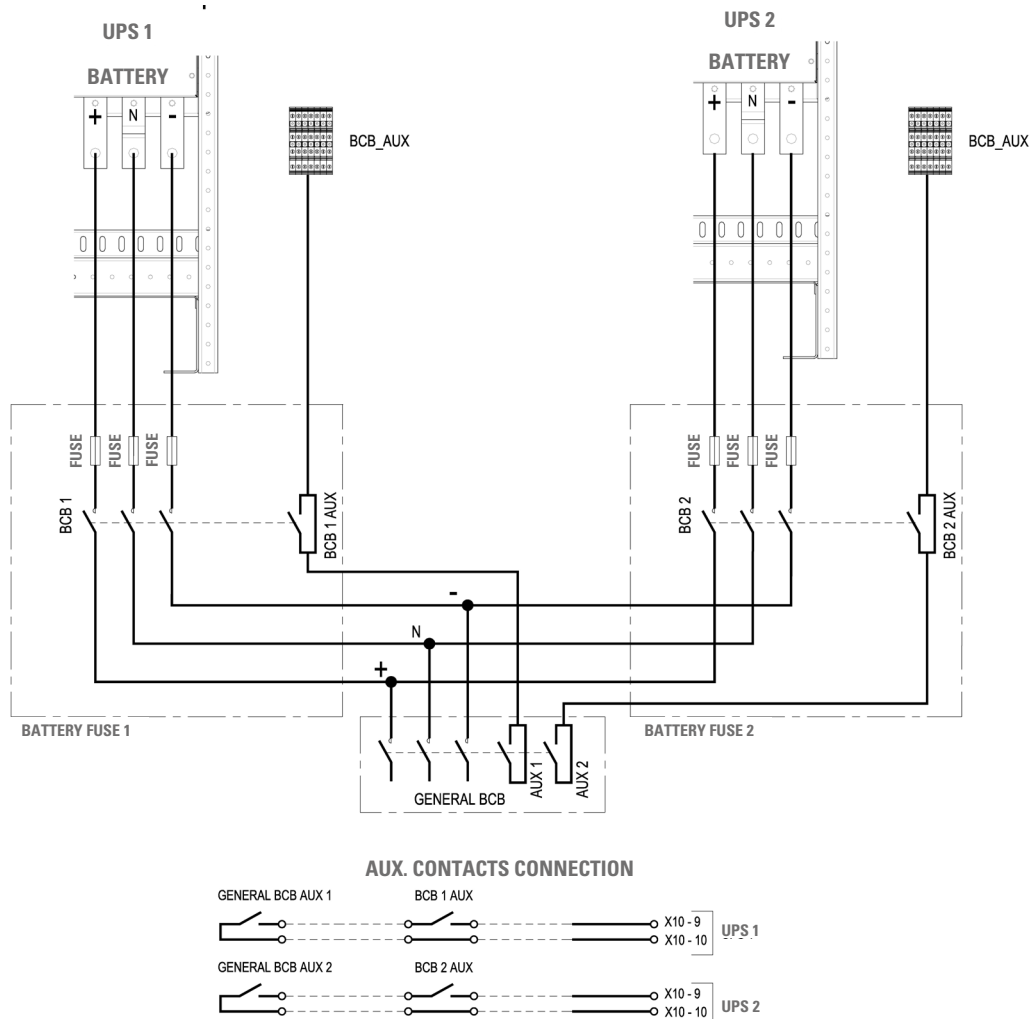

Fig. 51. Connection of the SLC 100 - 160 X-PERT and SLC 200 - 250 - 300 X-PERT battery.
- Every SLC X-PERT UPS between 100-160 kVA and 200-300 kVA must be connected to the battery via an **external BCB disconnector** (BCB1 and BCB2 in Fig. 51). The battery disconnecter must be equipped with a “normally open” contact in order to be connected to the BCB-AUX input disconnector. The connection diagram is shown in the following figure: